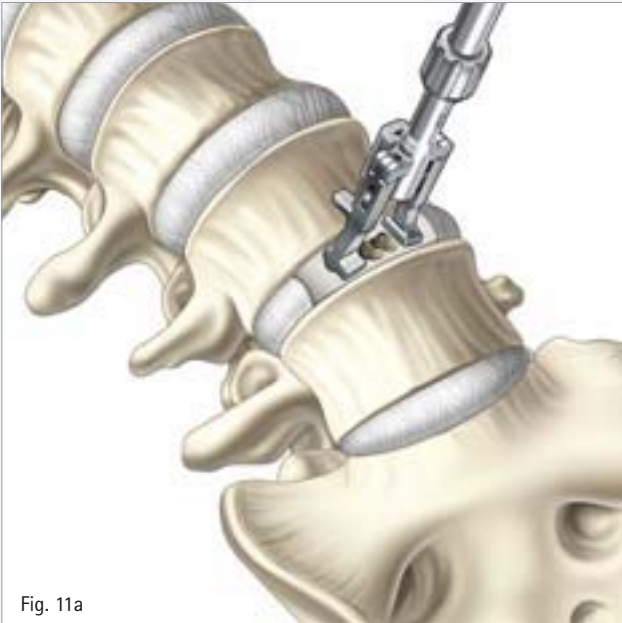

Fig. 11a
- The implant insertion instrument can be utilized for implant stabilization during medial screw hole preparation and insertion (Fig. 11a).